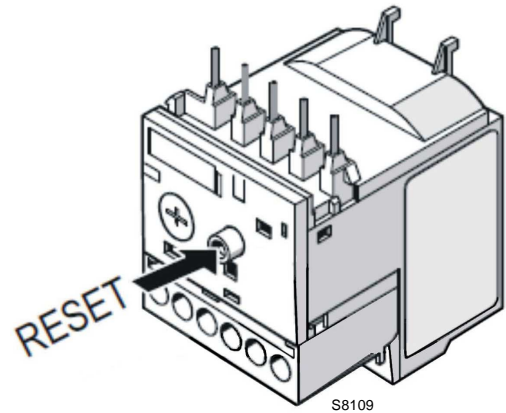

Fig. 39
- To reset, in the case of an intervention of the thermal relay, press the button **"RESET"** (Fig. 39).